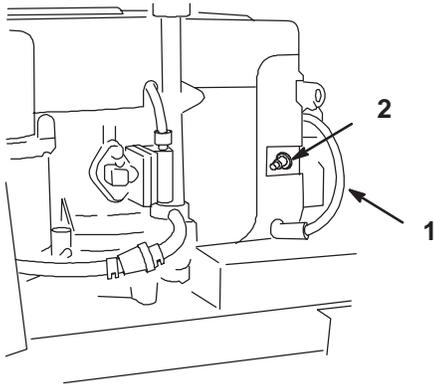

Figure 25
3. Pull the wire(s) off the spark plug(s) (Fig. 25). Now clean around the spark plug(s) to prevent dirt from falling into the engine and potentially causing damage.
3. Push the wire(s) onto the spark plug(s) (Fig. 25).